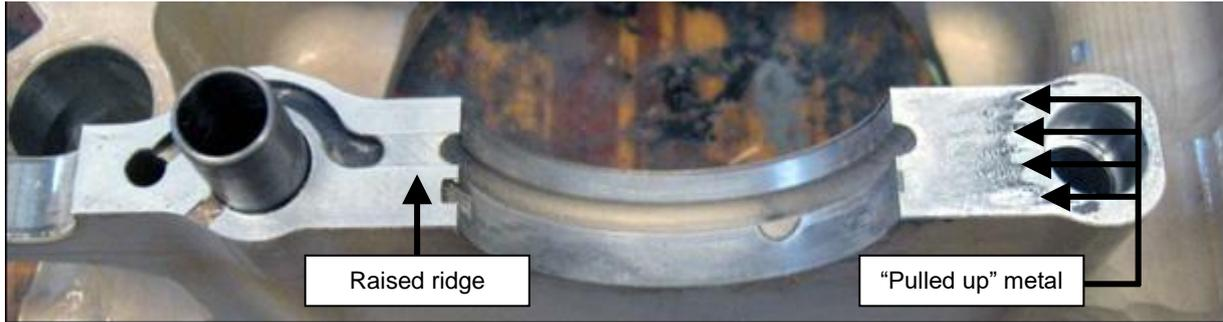

Figure 211 – Crankcase Fretting
- Cases which have suffered fretting can be identified as shown in Figure 211. There will be characteristic markings on the crankcase joining face near the main bearing journals which can be felt by scratching with a fingernail – the raised portions will be clearly evident.